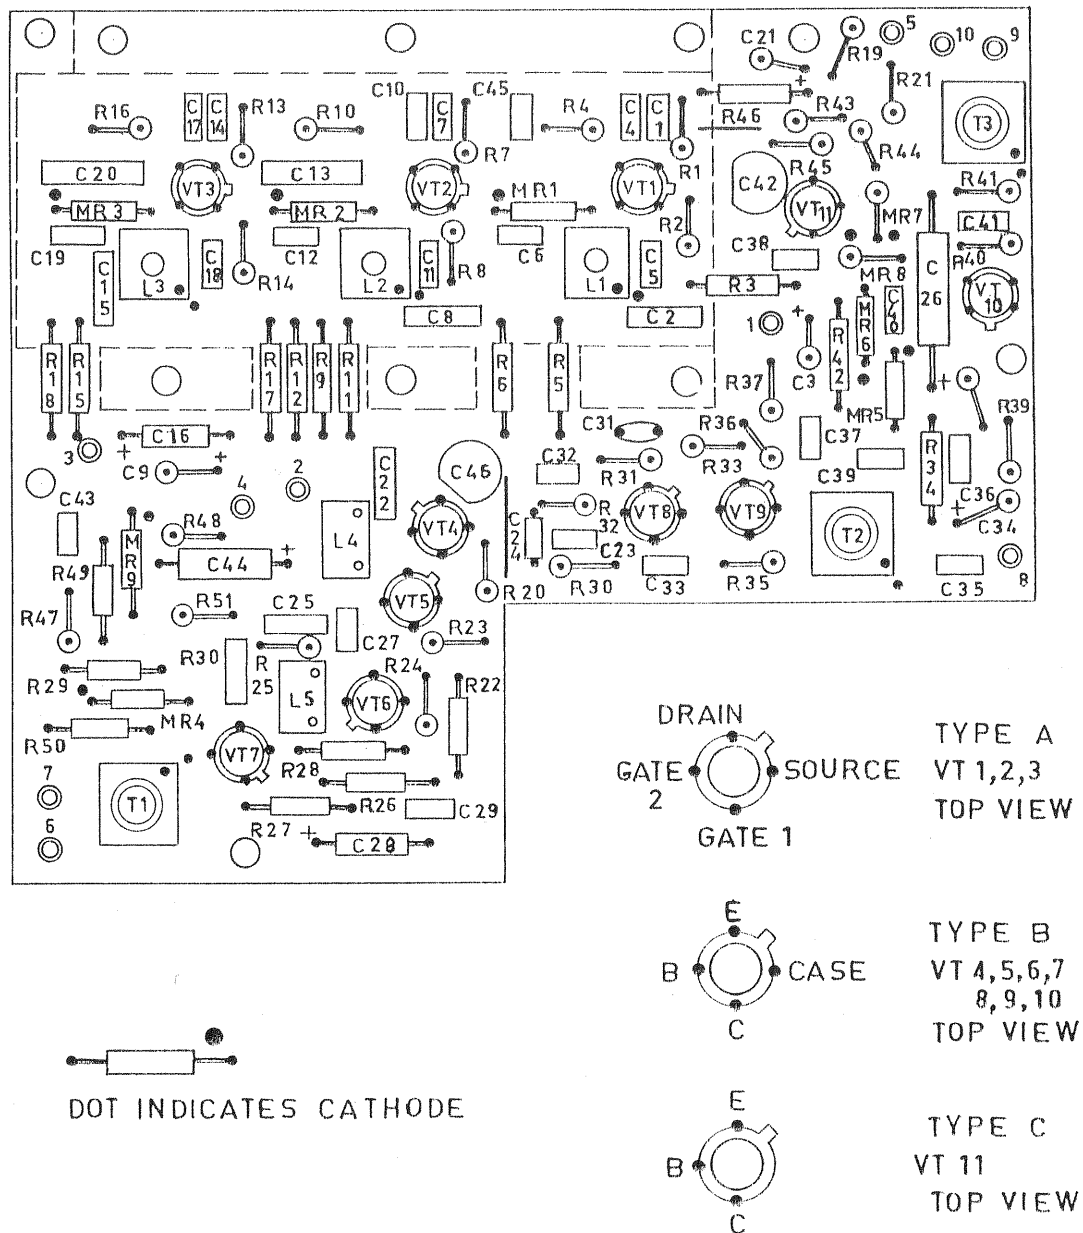

FIG 7 — VOLTAGE CONTROLLED OSCILLATOR 10-3CB1 — COMPONENT LAYOUT
**Voltage Controlled Oscillator 10-3CB1 (See Fig 7)**
- c. Check for correct type of components as shown in Fig 7 and pay particular attention to the polarity of rectifiers and electrolytic capacitors.